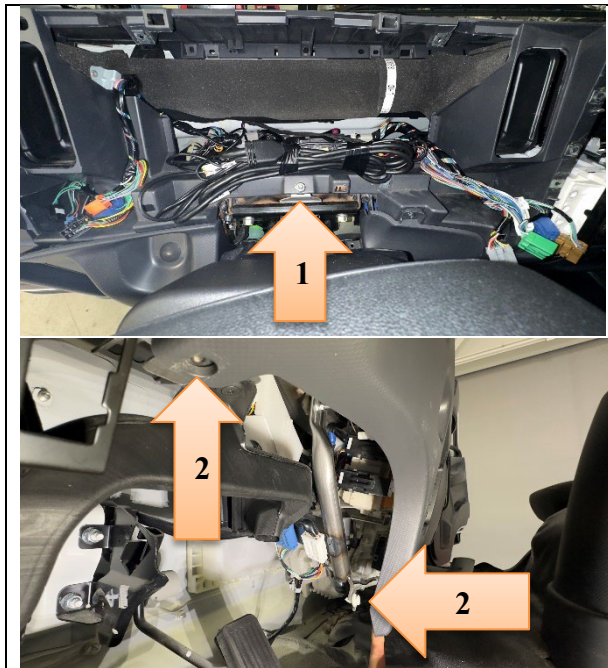

Figure 90
96. Install on the IP the one (1) nut on removed in Step 53 and the two (2) clips. (See Figure 90.) **Torque the nut to: 4.0 N•m (35 lb•in)**